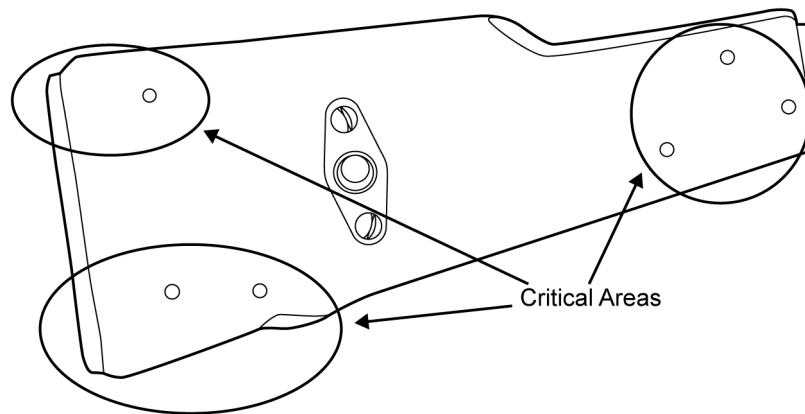

Figure 3. Critical Areas of the Fixed Buttstock.
1. Check the fixed buttstock for cracks. Up to three cracks are acceptable. No cracks are acceptable in the critical areas (near pins and screws). Refer to Figure 3. Replace the buttstock if defective.